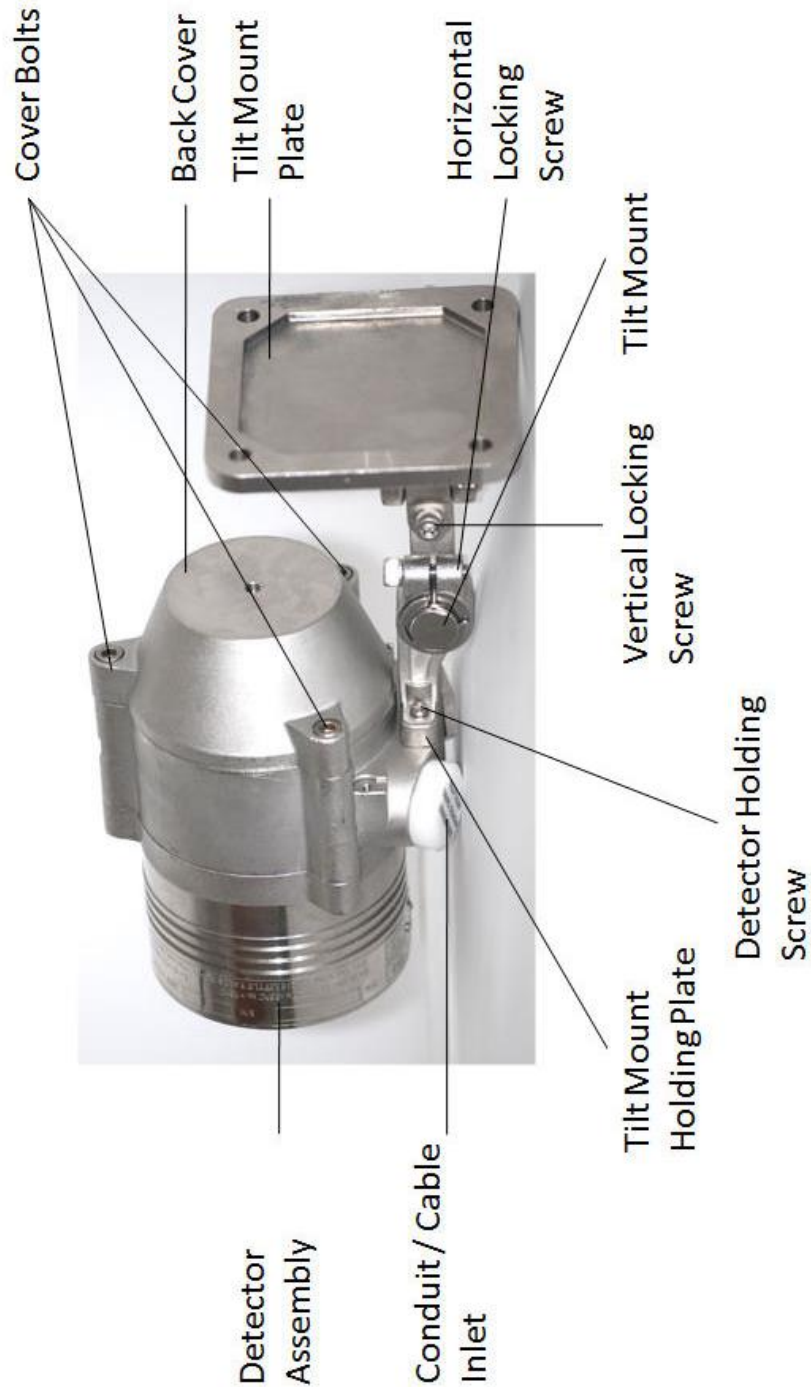

Figure 5: Detector with Tilt Mount
Figure 5 shows the detector mounted on the tilt mount.
- 9** Place and secure the detector's back cover by screwing the 3 socket-head-screws in the cover bolts (Figure 5).